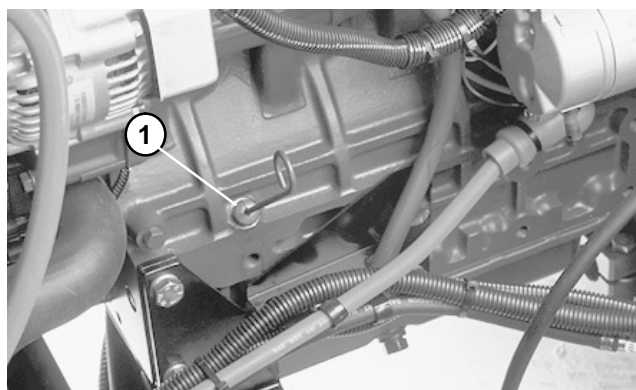

Figure 2
3. Remove dipstick, wipe clean and reinstall dipstick into tube and pull it out again. Oil level should be up to the FULL mark (Fig. 2).